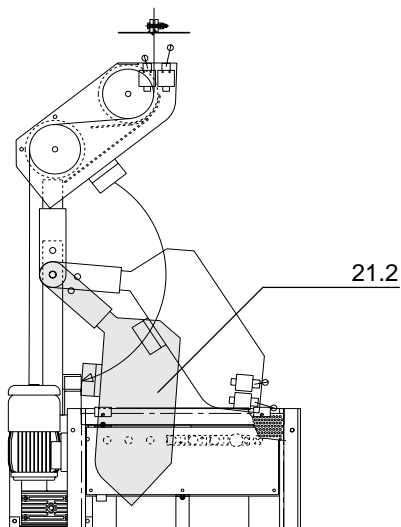

Fig. 2 - ALTA SOLO platform with hinged stirrup (option)
- an **ALTA SOLO platform** with a single suspension point (Fig. 2)
The SOLO platform can be fitted as standard with a hinged stirrup for ease of transport and storage (Fig. 2).